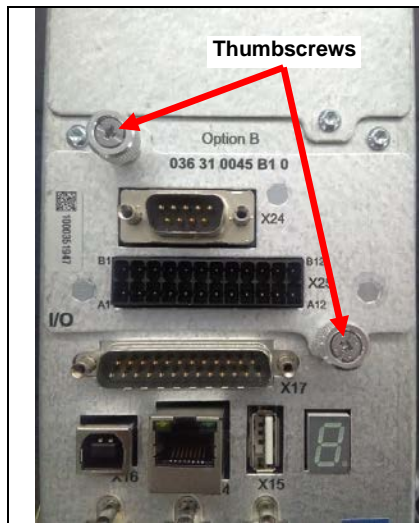

Figure 5-16
Step 6. Remove the (2) two 10mm nuts that secure the servo to the bottom plate using a metric deep well socket wrench. The (2) two button head bolts that the nuts thread onto are 6mm and if they back out use a 4mm Allen wrench to secure them.
- Step 7. Remove the I/O Modules from both of the old and new drives. This is accomplished by loosening the thumbscrews (use a #1 Philips if necessary) and then carefully lifting the I/O Module up off the top of the servo. (Refer to Figures 5-16)